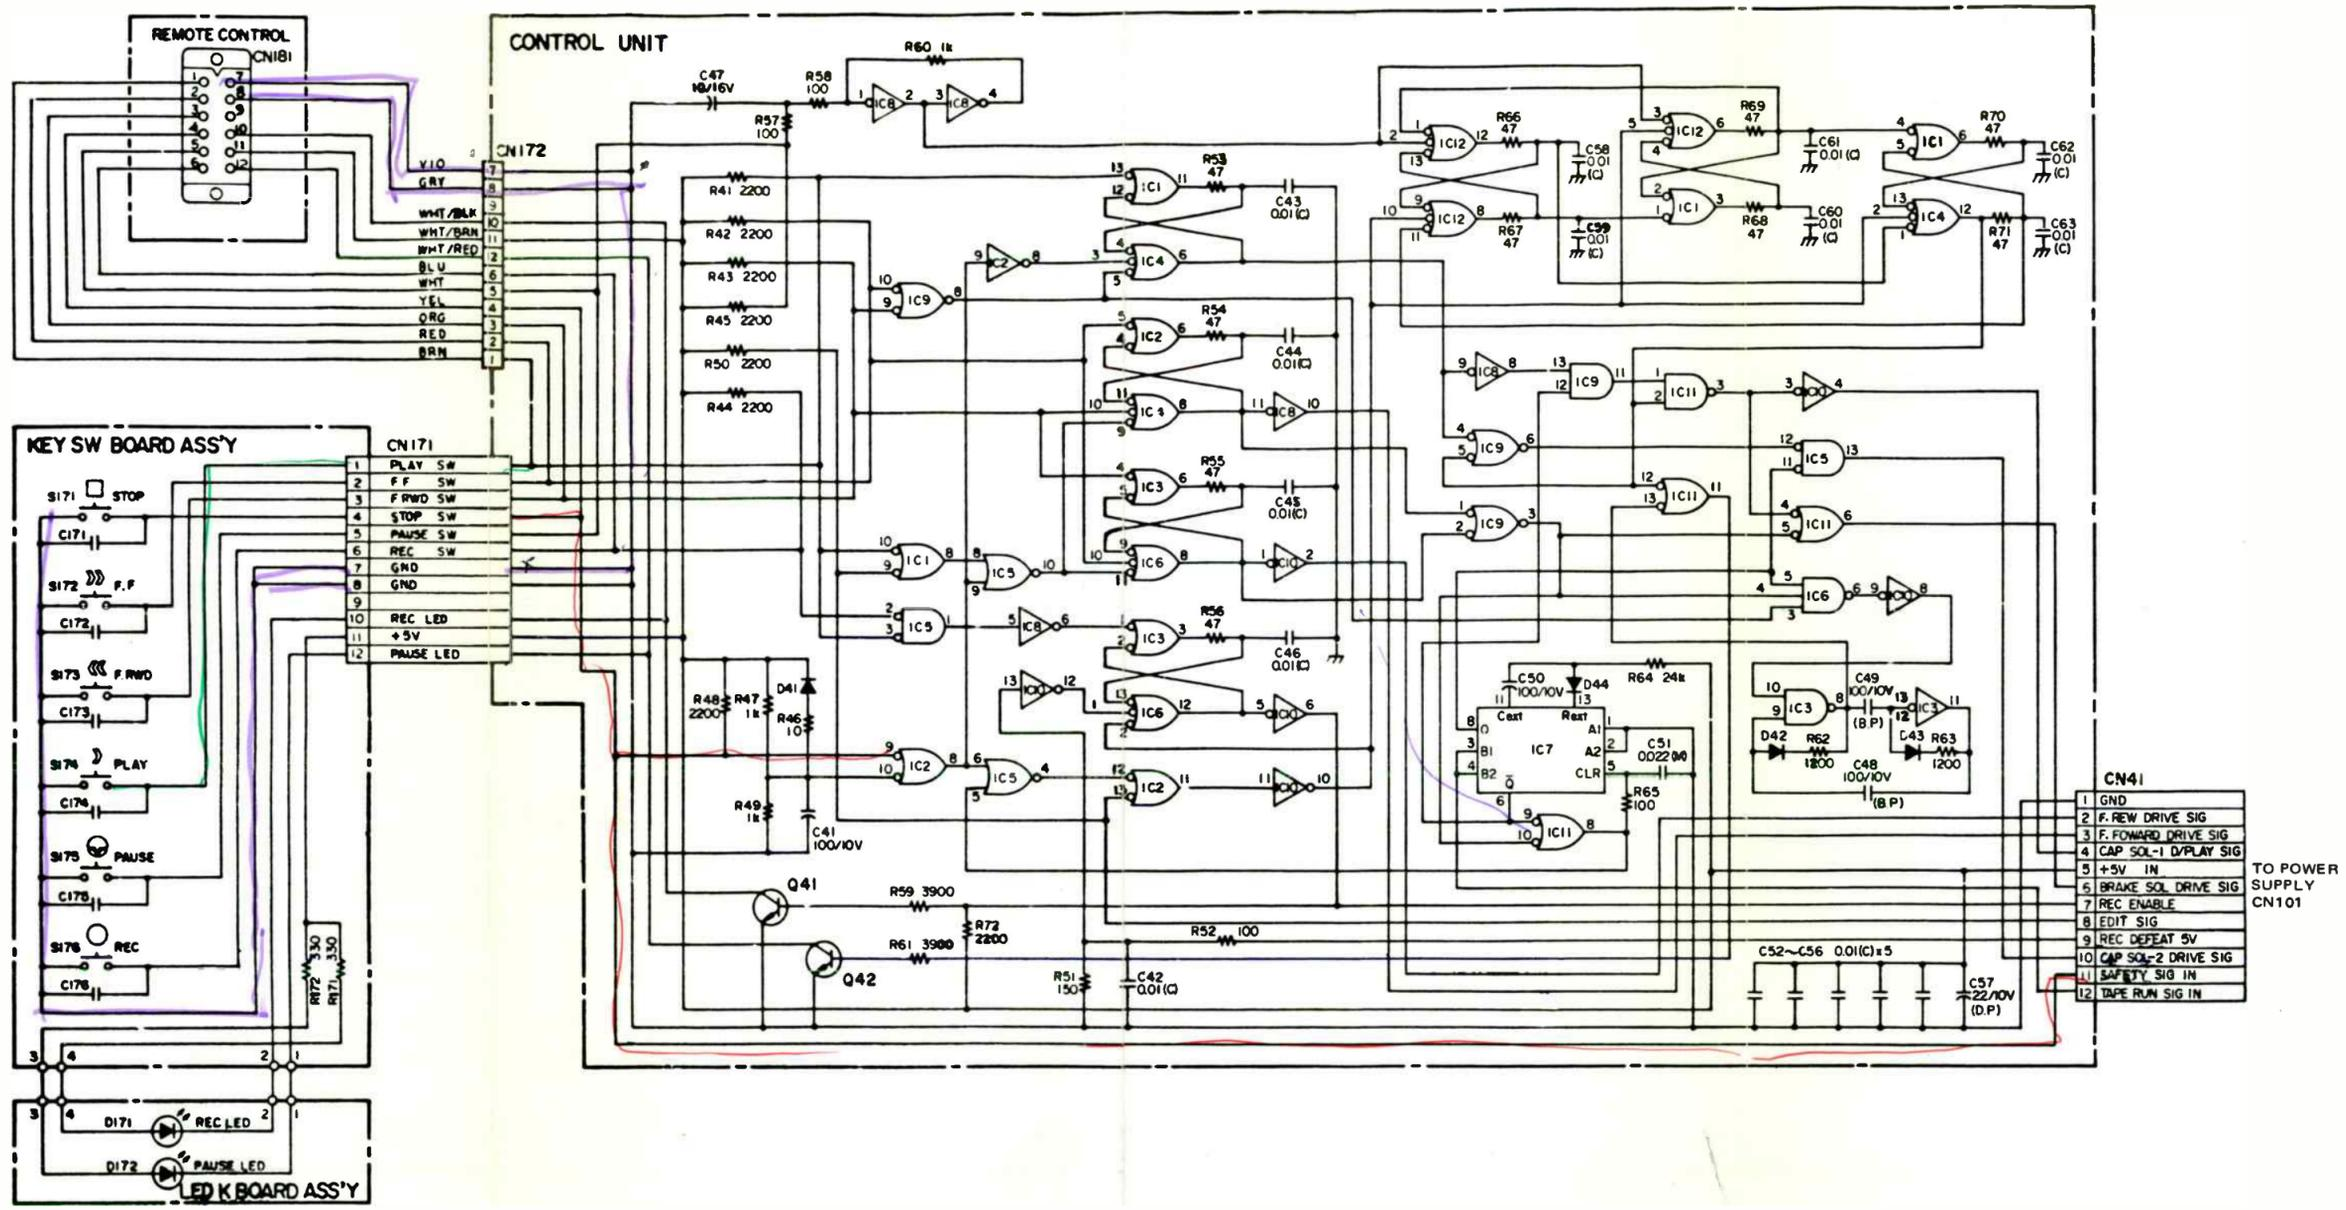
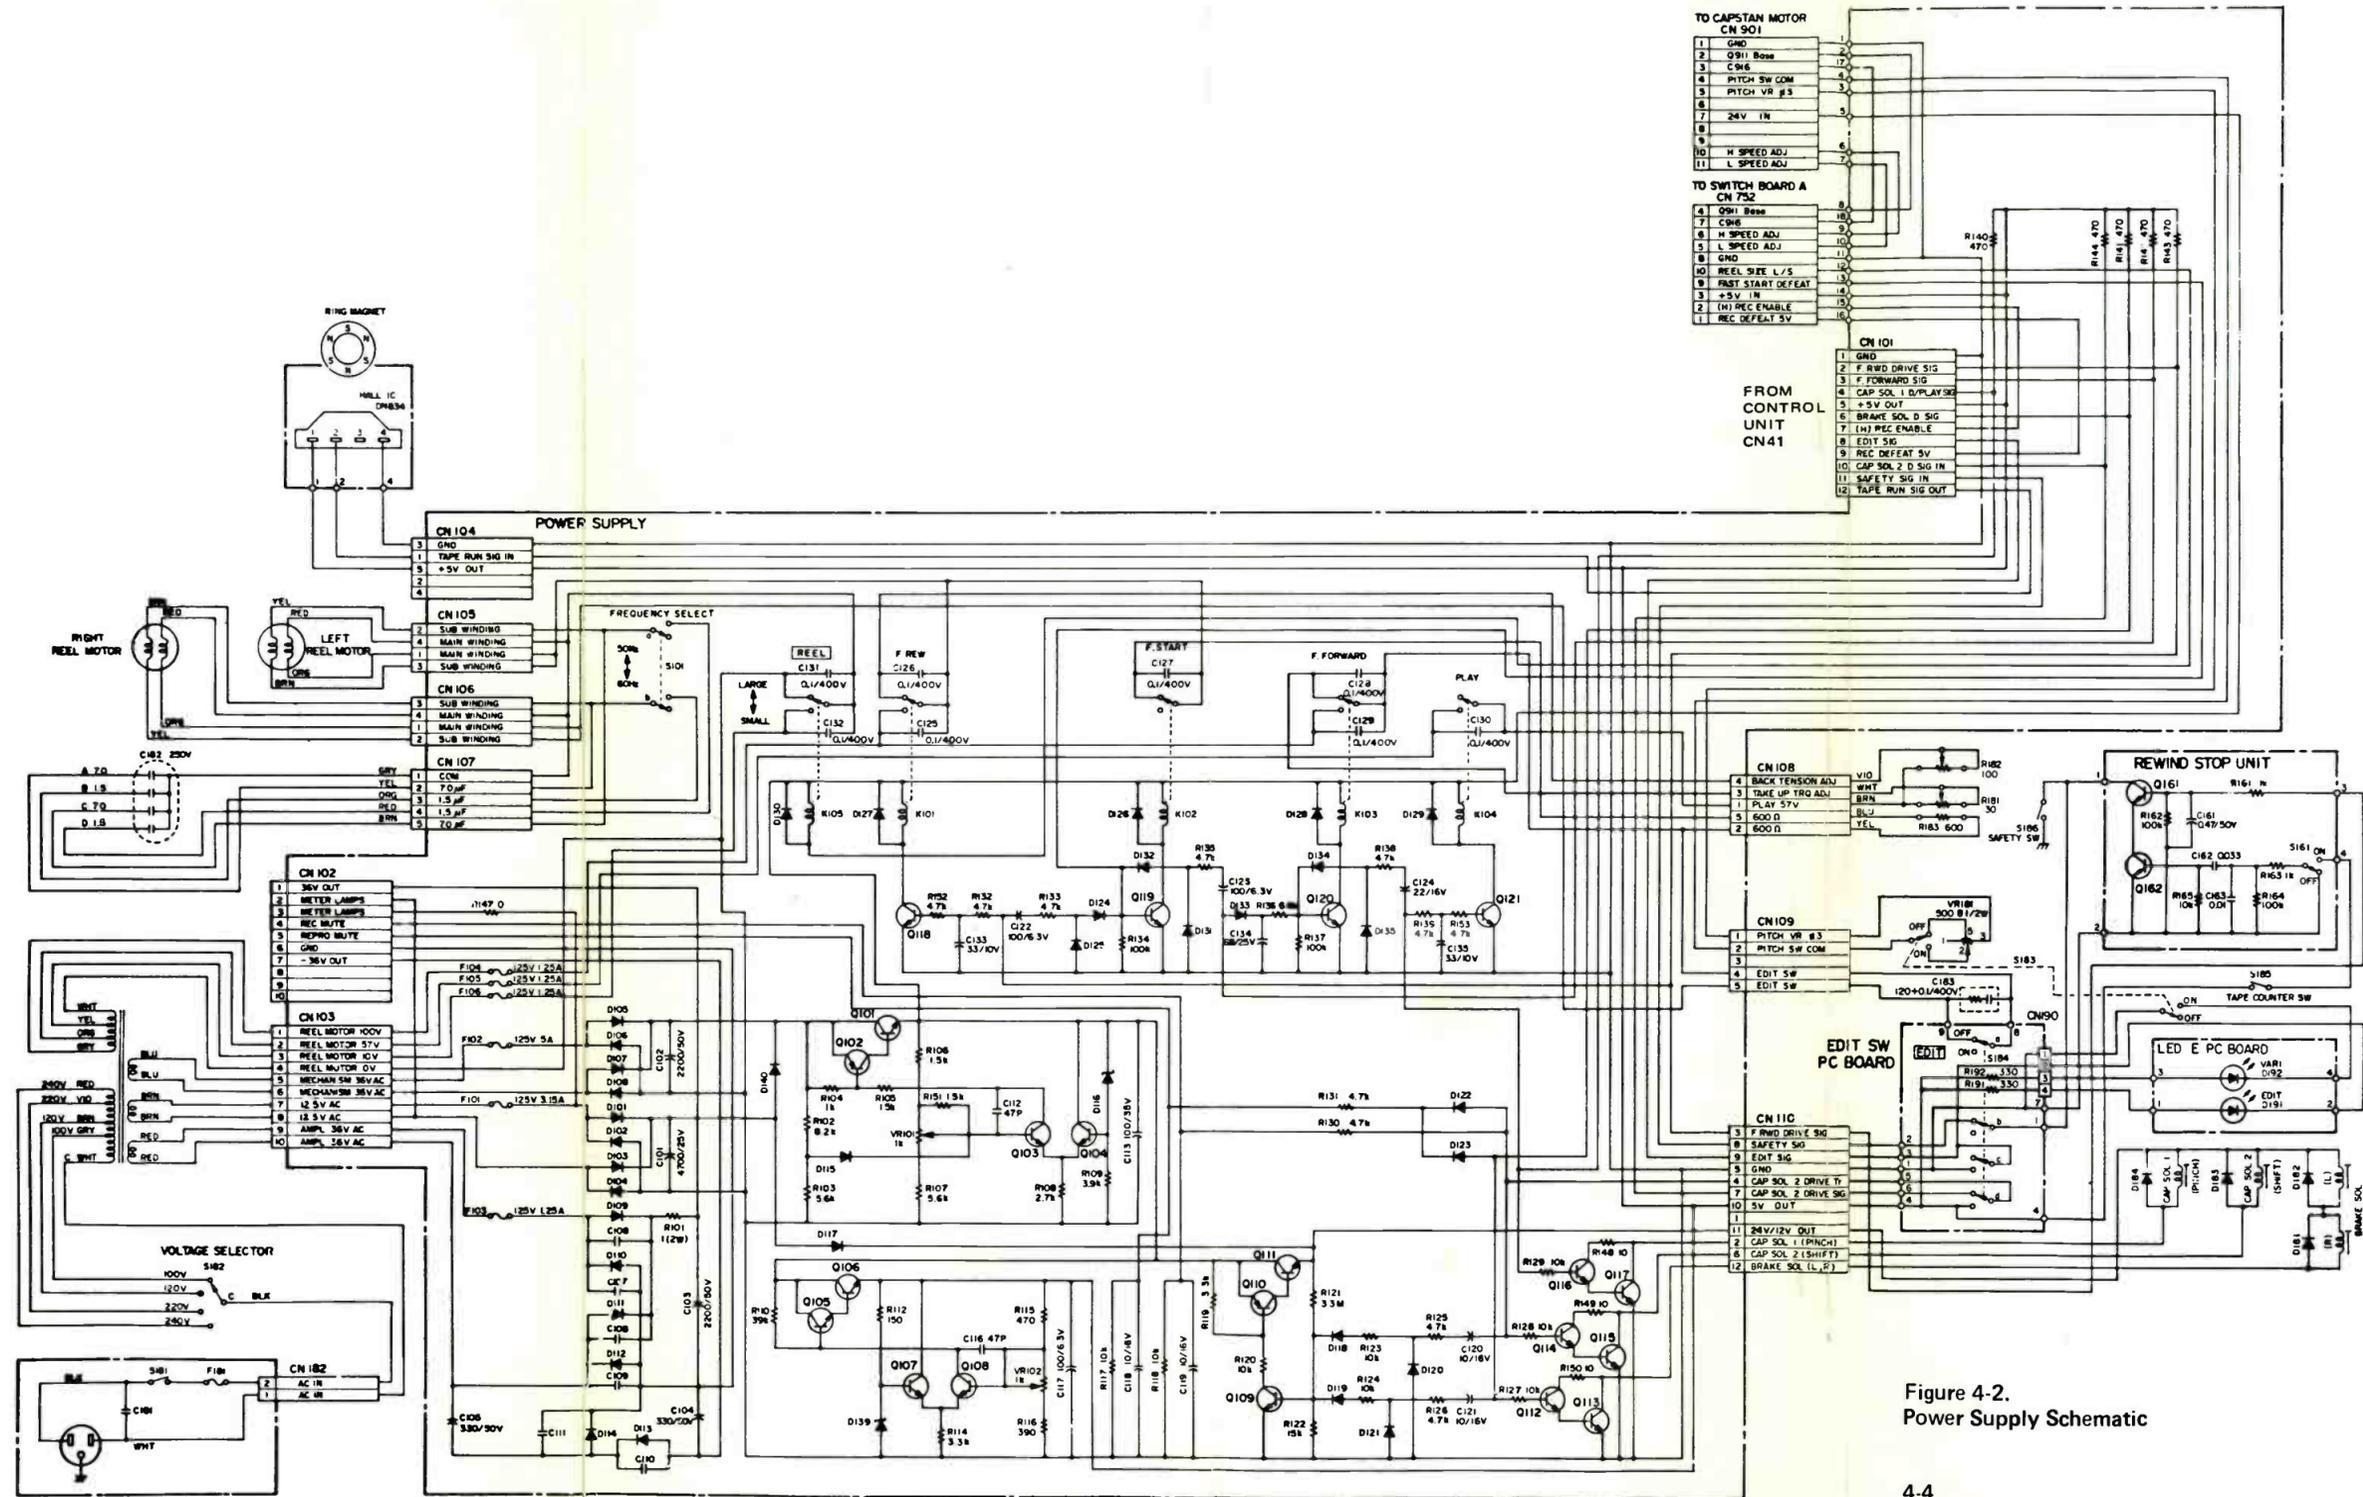

Figure 4-1.
Figure 4-2.
Figure 4-1 is a schematic of the control unit and the key switchboard. Figure 4-2 is a schematic of the power supply. Refer to these two figures in the following operational mode descriptions. Table 4-1 lists the sequence of signals generated for each mode and Figure 4-3 is a timing diagram for the various modes.
**4-3. Play Mode.** When the PLAY button is depressed, IC11-6, IC10-4, and IC5-13 (Figure 4-1) go high, causing several things to occur. The brake solenoids are energized, releasing the brakes; the capstan solenoids are energized to engage the pinch roller; REC MUTING and REPRO muting are released; and the reel motors have power applied to them.
The reel motors are activated as follows: When the PLAY button is depressed, the play signal turns on Q120 and Q121 (Figure 4-2) and energizes K103 and K104. Capacitor C124 operates to hold K103 energized for approximately 0.1 second, during which time 100 volts is supplied to the takeup (right) reel motor for initial startup.
When IC4, terminal 3 or 5, receives a low signal, the play mode is released and then reset. This reset signal is generated by any of the following modes: stop, fast forward, or fast rewind. As shown in Figure 4-1, a noise filter, such as that formed by R53 and C43, is provided for each flip-flop.
**4-4. Fast Forward Mode.** When the FAST FWD button is depressed, IC8-10 and IC11-6 go high. Relay K103 (Figure 4-2) is energized and, at the same time, K102 is energized for a short time. Energizing K102 opens the supply reel motor drive circuit temporarily to make back tension zero, and reduces the load on the 100-volt supply to help increase tape speed. In fast forward mode, the 100 volts is applied directly to the takeup reel motor to produce takeup torque. At the same time, R183 is bypassed. The supply reel motor provides back tension. As in play mode, the high on IC51-3 releases repro muting and energizes the brake solenoids, releasing the brakes.
When a low level input is connected to pin 10 or 9 of IC4 (Figure 4-1), the input flip-flop will be reset and the fast forward mode will be released. The reset signal for fast rewind mode
**4-6. Record Mode.** When the RECORD and PLAY buttons are pressed simultaneously, the resulting signals are ANDed to IC5-1 (Figure 4-1). The REC FF is set, a Record Enable signal (high) from IC10-6 is sent to switchboard A pin 2, and the record signal circuits are energized.
**4-8. Stop Mode.** Pressing the STOP button sends a signal which resets each of the following flip-flops: play, fast forward, fast rewind, pause, and record. C41 (Figure 4-1) works the same as the STOP button; it holds IC2-10 low from the time power is applied until the circuits stabilize.
Refer to Figure 4-2. The frequency selector switch controls MP capacitor C182. Switch S101 changes the capacitance value to 7.0  $\mu$ F or 60 Hz, or 7.0 + 1.5  $\mu$ F or 50 Hz. Capacitor C182 is sub-wired and provides current phase correction to give maximum efficiency.
The capstan solenoid no. 1 drive signal and the play signal are received from the control unit through R129, Q116, and Q117 (Figure 4-2). When Q116 and Q117 are turned on, capstan solenoid no. 1 is energized. In the same manner, the capstan solenoid no. 2 drive signal through R128, Q114, and Q115 energizes capstan solenoid no. 2; and the brake solenoid drive signal through R127, Q112, and Q113 energizes the left and right brake solenoids.
Refer to Figure 4-2. The rewind stop unit, controlled by the rewind-stop MEMORY switch, automatically stops the tape while in rewind mode when the digital counter passes 00 00. The output signal at pin 1 of the rewind stop circuit is fed back to the control unit and has the same effect as pushing the STOP button. The input signal at pin 3 is the fast rewind drive signal of approximately 5 Vdc during fast rewind mode, which comes from the control unit.
Refer to Figure 4-2. When the EDIT switch is on, it performs the following functions: